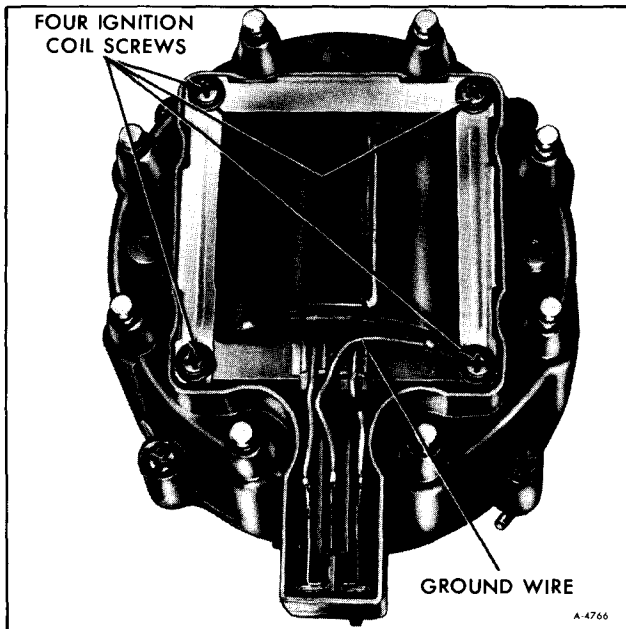

Figure 63—Ignition Coil (Typical)
3. Remove four screws securing ignition coil to distributor cap (figure 63).